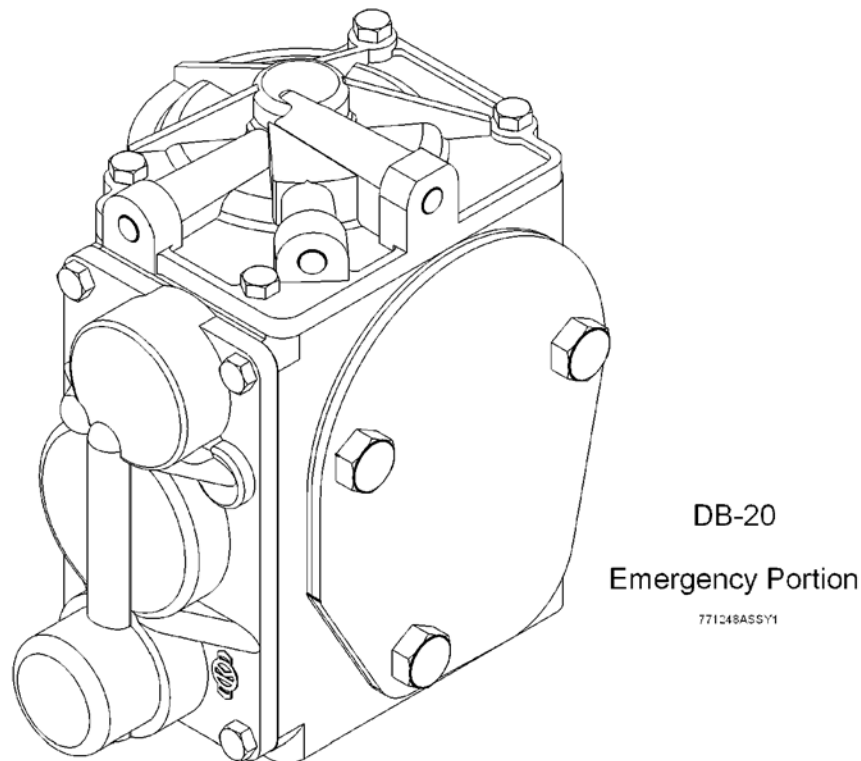

Figure 10-2 DB20 Emergency Portion with Shipping Cover Installed
1. When the emergency portion is not attached to the pipe bracket, a special shipping cover must be fitted to the emergency portion for protection against dirt and damage (see Figures 10-2 and 10-3).